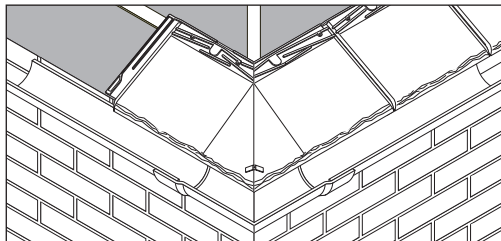

Fig 6 Secure hip slates with butterfly clips
- 13 Fix LH cut double slate in position and secure front edges of slates with a butterfly clip and s/s nail (Fig 6) approx 50mm from front edge of slates.